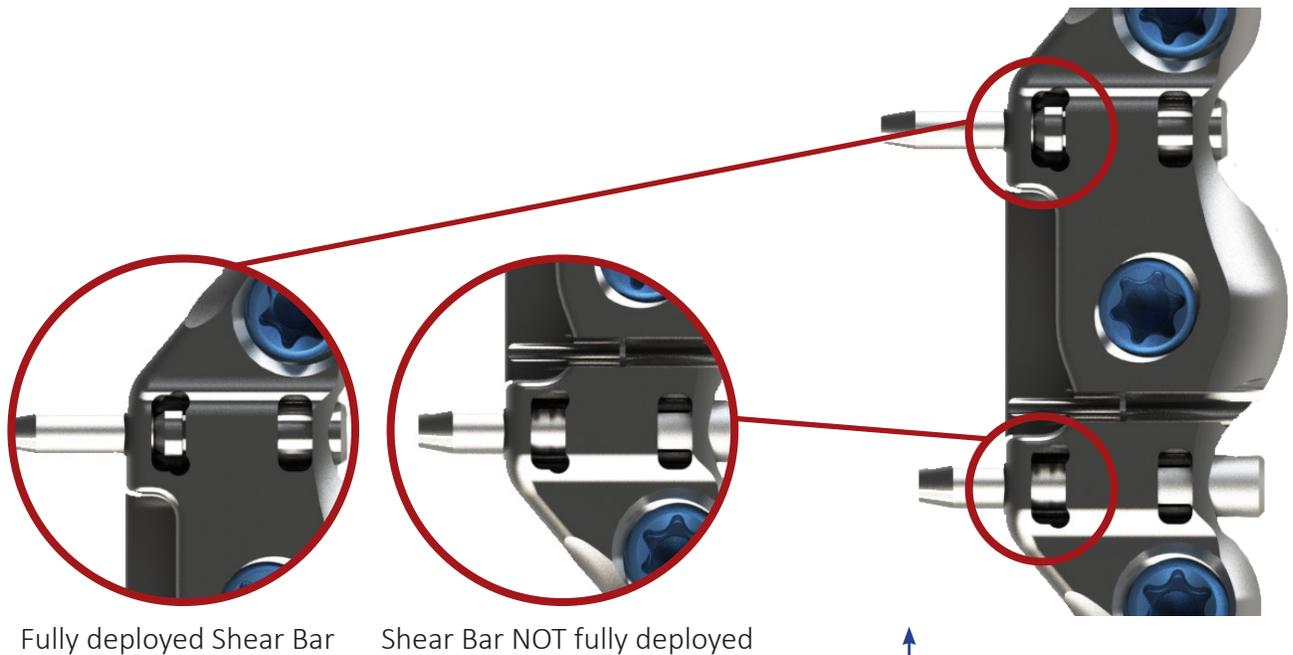

figure 12: Visual Indication of deployed Shear Bars
- Check to ensure the Shear Bars are fully deployed. Full deployment is indicated when the barbs of the Shear Bar are visible through the open window in the Shear Bar Plate (*figure 12*).